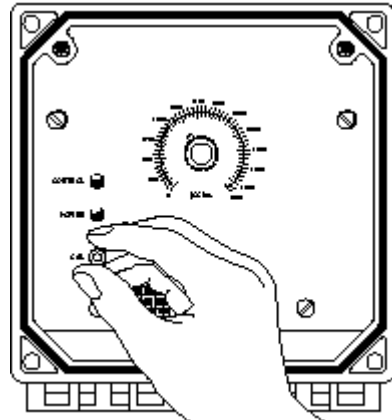

Fig. 8 Turn Cal Adjust Knob
4) Turn the cal knob fully counter clockwise and momentarily activate the test switch (Fig. 8). If the unit is in continuous mode you will need to wait 10 seconds before slowly turning the cal knob clockwise. If the unit is in the timed sample mode you will need to wait for the blow down interval to pass, 30 sec., 1, 2, or 4 minutes before slowly turning the cal knob clockwise. When the control led turns off stop turning the cal knob, the unit is calibrated.